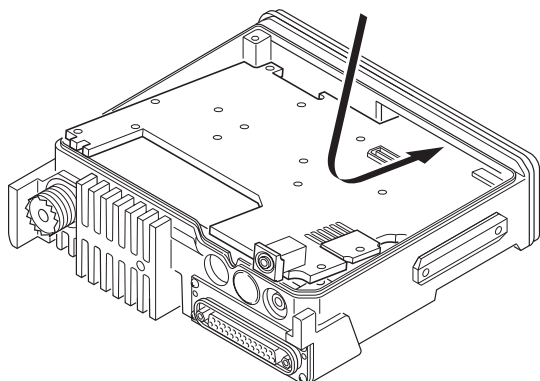

Fig. 3
2. Place the TX-RX PCB at its original position, tilt the TX-RX PCB and install the chassis as shown in Figure 3.